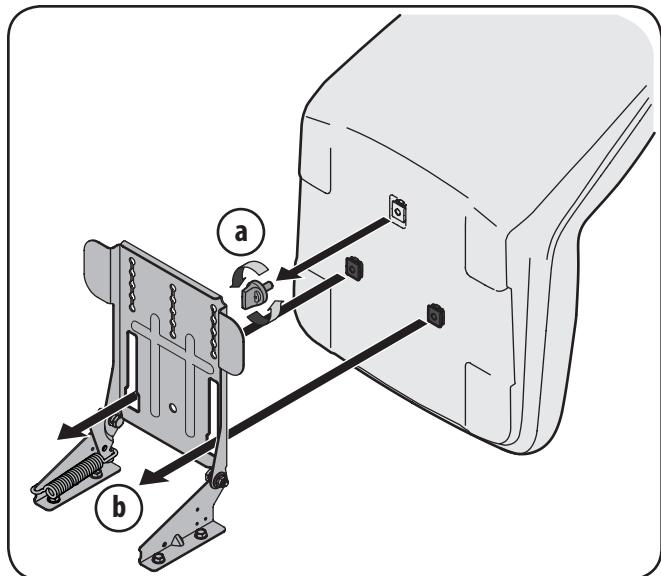

Figure 3-4
1. As already instructed, remove the seat adjustment knob installed by the factory in the bottom of the seat. See "a" in Figure 3-4.
2. Align the seat over the seat pivot bracket as shown in Figure 3-4 and fit the seat onto the pivot bracket inserting the two tabs on the seat bottom into the slots on the pivot bracket.